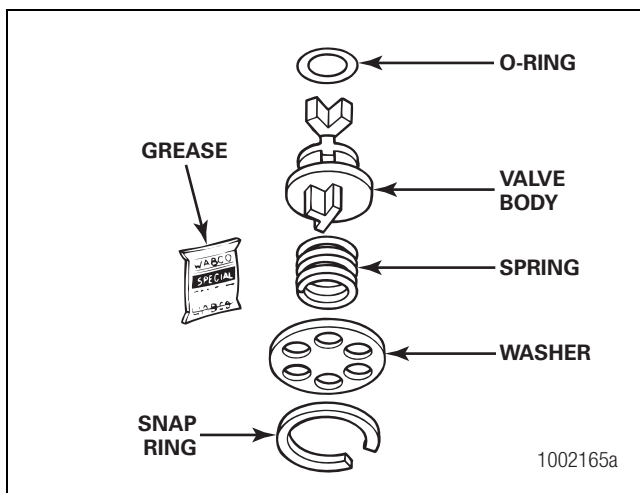

Figure 3.3
1. Review Figure 3.3 to ensure you have all of the parts required to replace the outlet check valve. Use the grease included with the replacement kit to lubricate the O-ring seal.